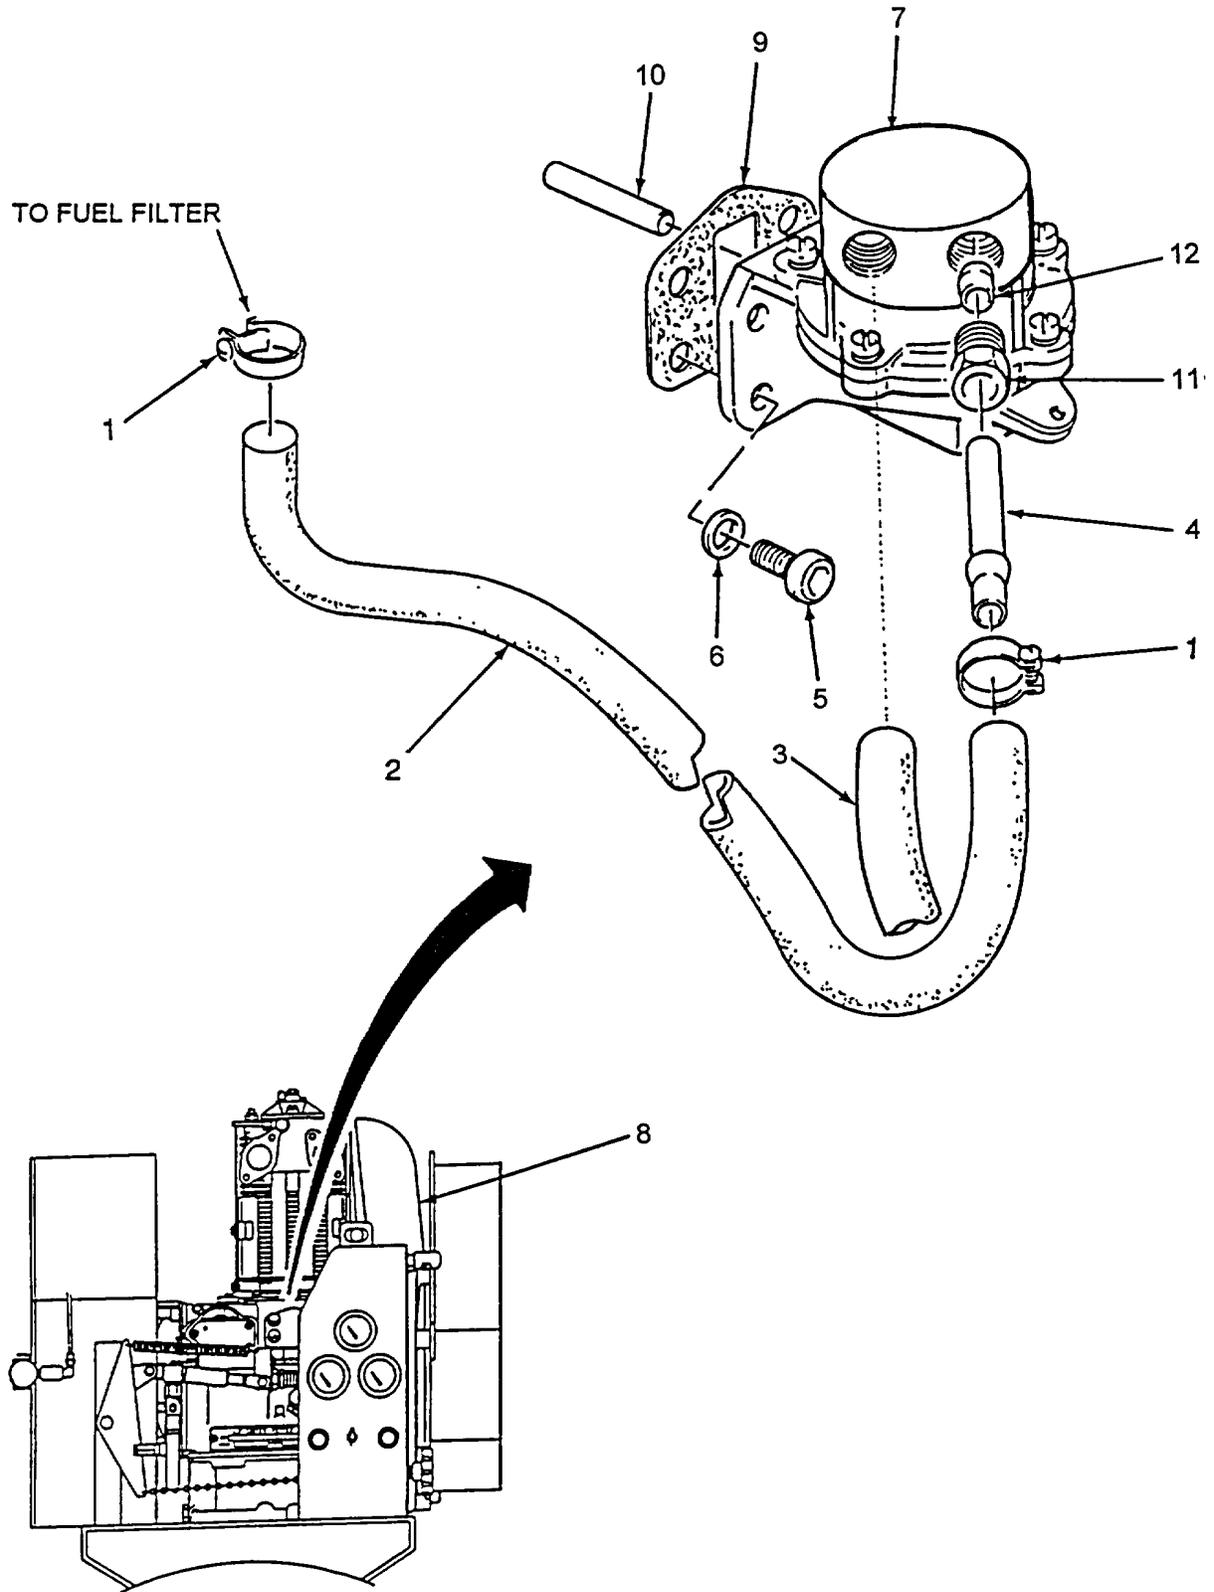

Figure 5-16. Fuel Lift Pump
## (1) Removal. (Refer to Figure 5-16).
- (a) Loosen pipe clips (1) and slide them down on flexible fuel pipes (2 and 3). Remove flexible fuel pipe (2 and 3) from connections (4).
- (b) Remove four cap screws (5) and four washers (6) holding fuel lift pump (7) onto diesel engine (8).
- (c) Remove fuel lift pump (7), gasket (9) and push rod (10) from diesel engine (8).
- (d) Unscrew union (11) from port of fuel lift pump (7).
- (e) Remove connection (4), with ferrule (12) and union (11) from port of fuel lift pump (7).